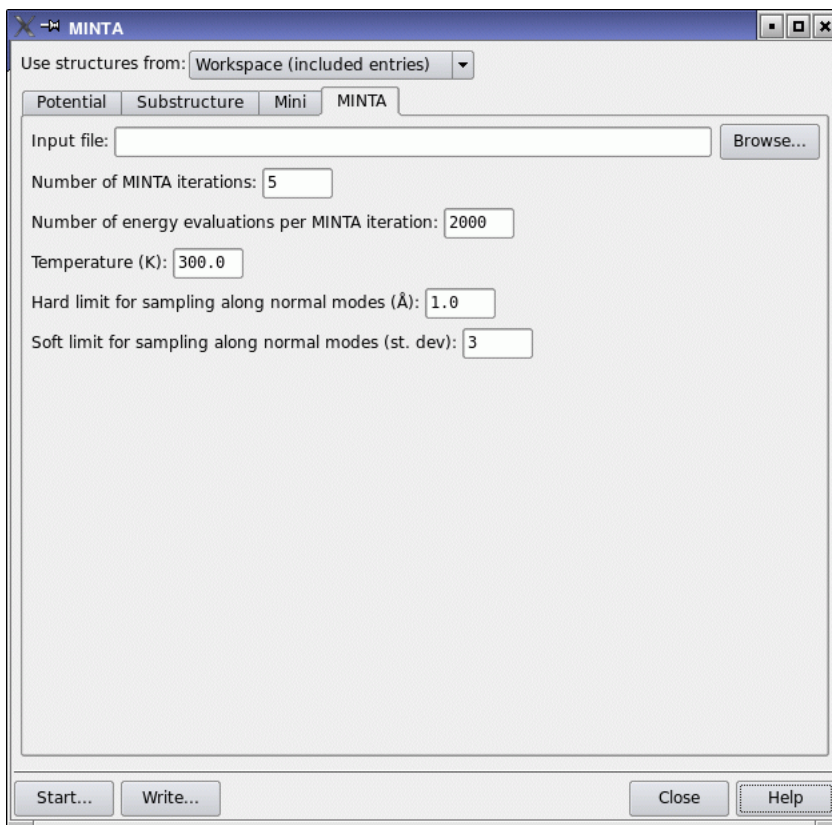

Figure 5.5. The MINTA panel showing the MINTA tab.
4. Choose Project Table (selected entries) from the Use structures from option menu (see Figure 5.5 on page 58).